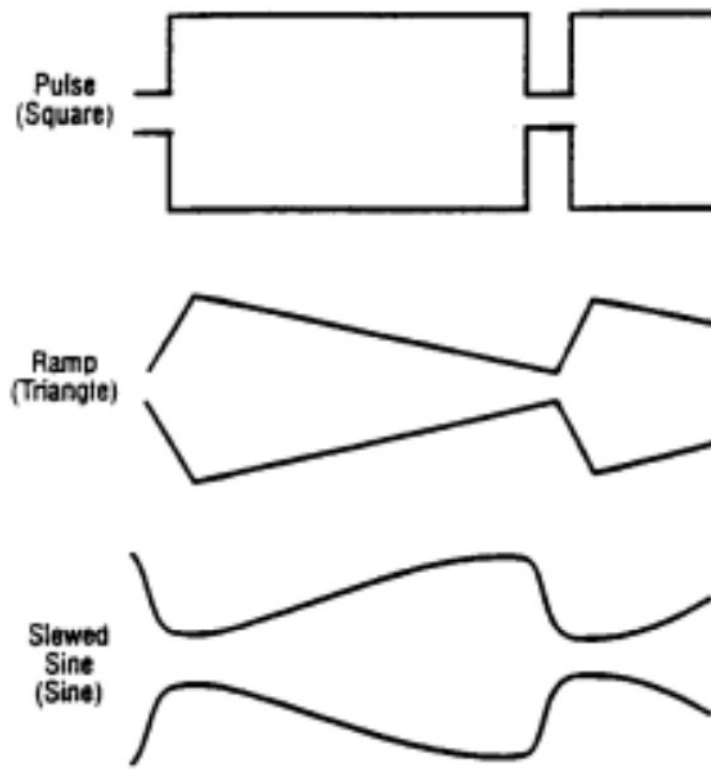

Figure 4. Effects of Symmetry Variation.
The DUTY CYCLE control can be used to alter the symmetry of the output waveform, to produce waveshapes such as those shown in Fig. 4. For a square wave, symmetry variation amounts to changing the duty cycle (ratio of "high" to "low" time), effectively converting the instrument into a pulse generator. For a triangle wave, the result is a ramp, and with a sine wave, a distorted waveshape called a slewed sine is produced. The Model 4017A provides for symmetry variation from 15% to 85%.
2. Engage the DUTY CYCLE switch (17) and adjust the DUTY CYCLE control (10) for the desired waveshape. Clockwise rotation from center results in an increase in square wave duty cycle, and changes the sine and triangle waves as shown in the top waveform of each pair of Fig. 4. Counter-clockwise rotation results in the bottom waveform in each pair.